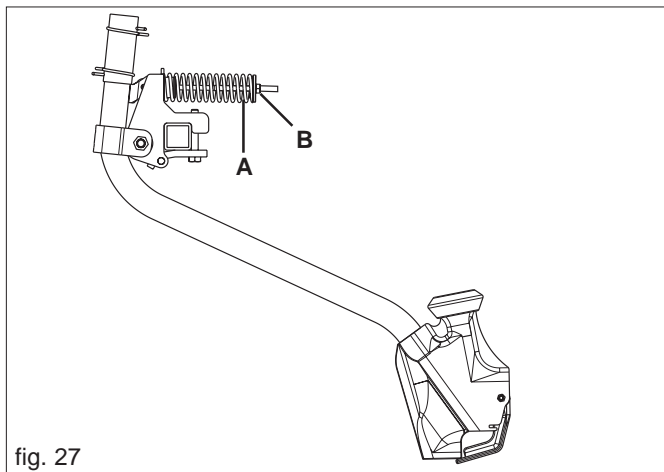
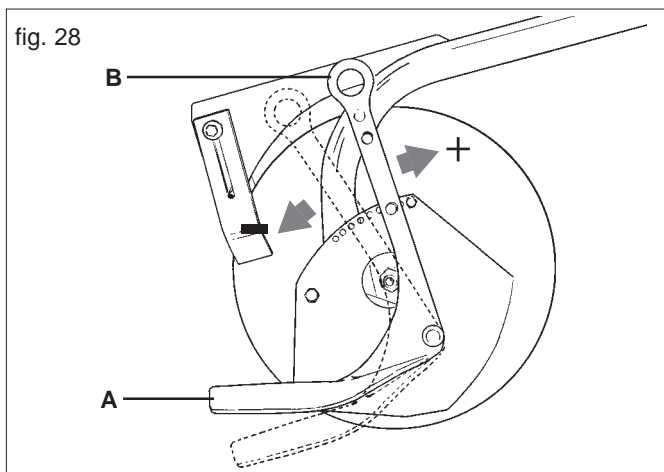

fig. 27
fig. 28
To obtain a good level at which sprouts come out, the seed needs to be placed at the right depth into the seeding bed. The planting depth is adjusted individually for each element, by using the nut (B) to regulate the compression springs (A, Fig. 27). Depending on the type of the type of soil, either increase or decrease the compression of the spring in order to determine the correct working depth. With disc-type planter shoes, the depth is determined by the limiter block (A Fig. 28) by changing its position with the lever (B Fig. 28).